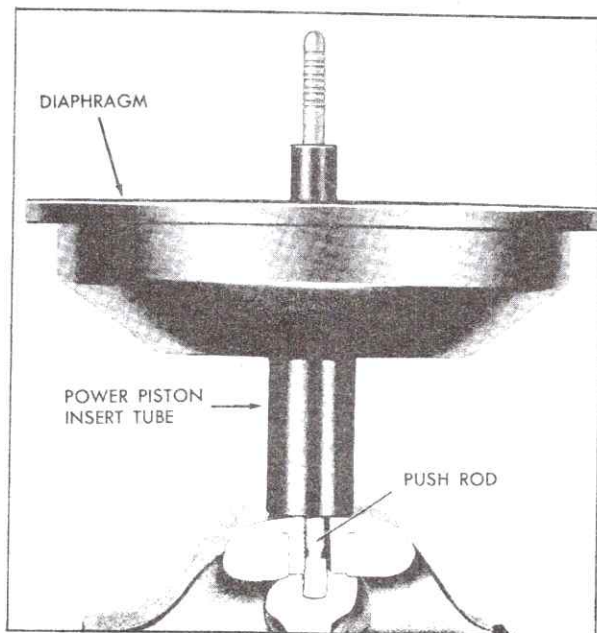

Fig. 5-14 Mounting Power Piston Assembly in Vise
jaws, Fig. 5-14.
10. Clamp control valve and rod assembly in vise with power piston insert tube resting on vise jaws, Fig. 5-14.